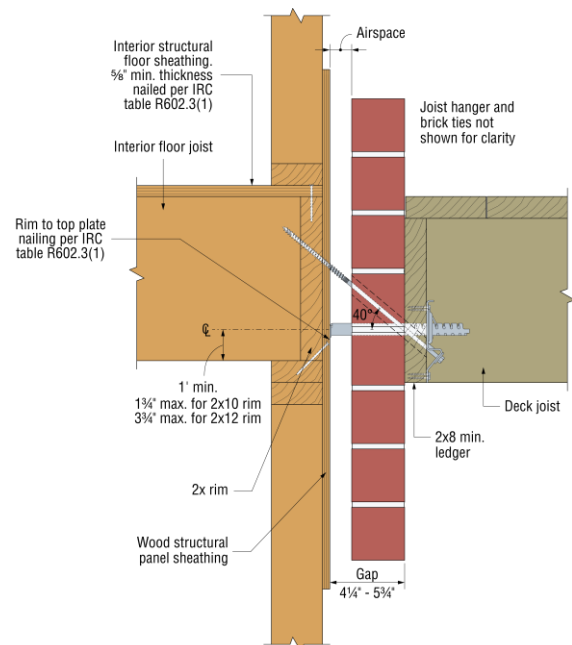

Figure 2
Table 2 provides the maximum on-center spacing for the BVLZ when the interior structural framing meets IRC requirements and wood structural panel (WSP) wall sheathing is present on the exterior of the wall. See Figure 2 below the table for additional information on IRC requirements. Maximum on-center spacing of the BVLZ is listed. Decrease the on-center spacing when necessary to accommodate deck joist spacing.
- See Figure 2 for minimum framing and IRC fastening requirements.